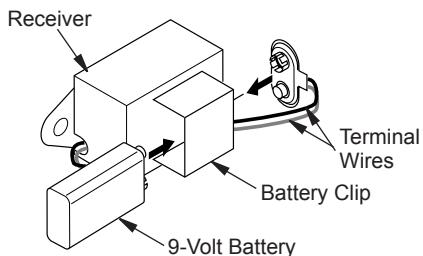

Figure 29 - Attaching Battery to Receiver
4. Locate battery clip mounted on back of receiver (see Figure 29).
6. Attach terminal wires to battery (see Figure 29).